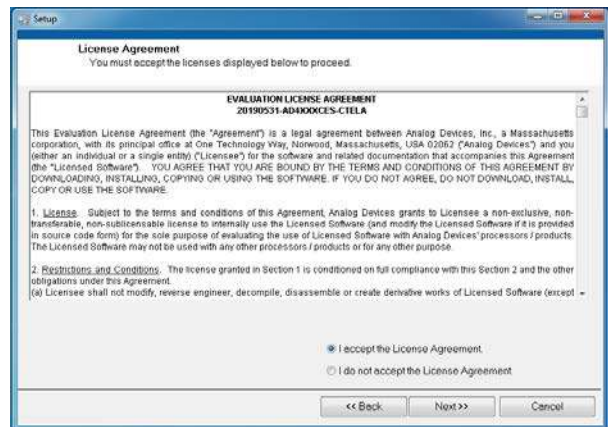

Figure 6. License Agreement Window
5. Installing the AD40XX Evaluation Software Installer requires users to accept the license agreement shown in Figure 6. Read the agreement before clicking **Next** to proceed.